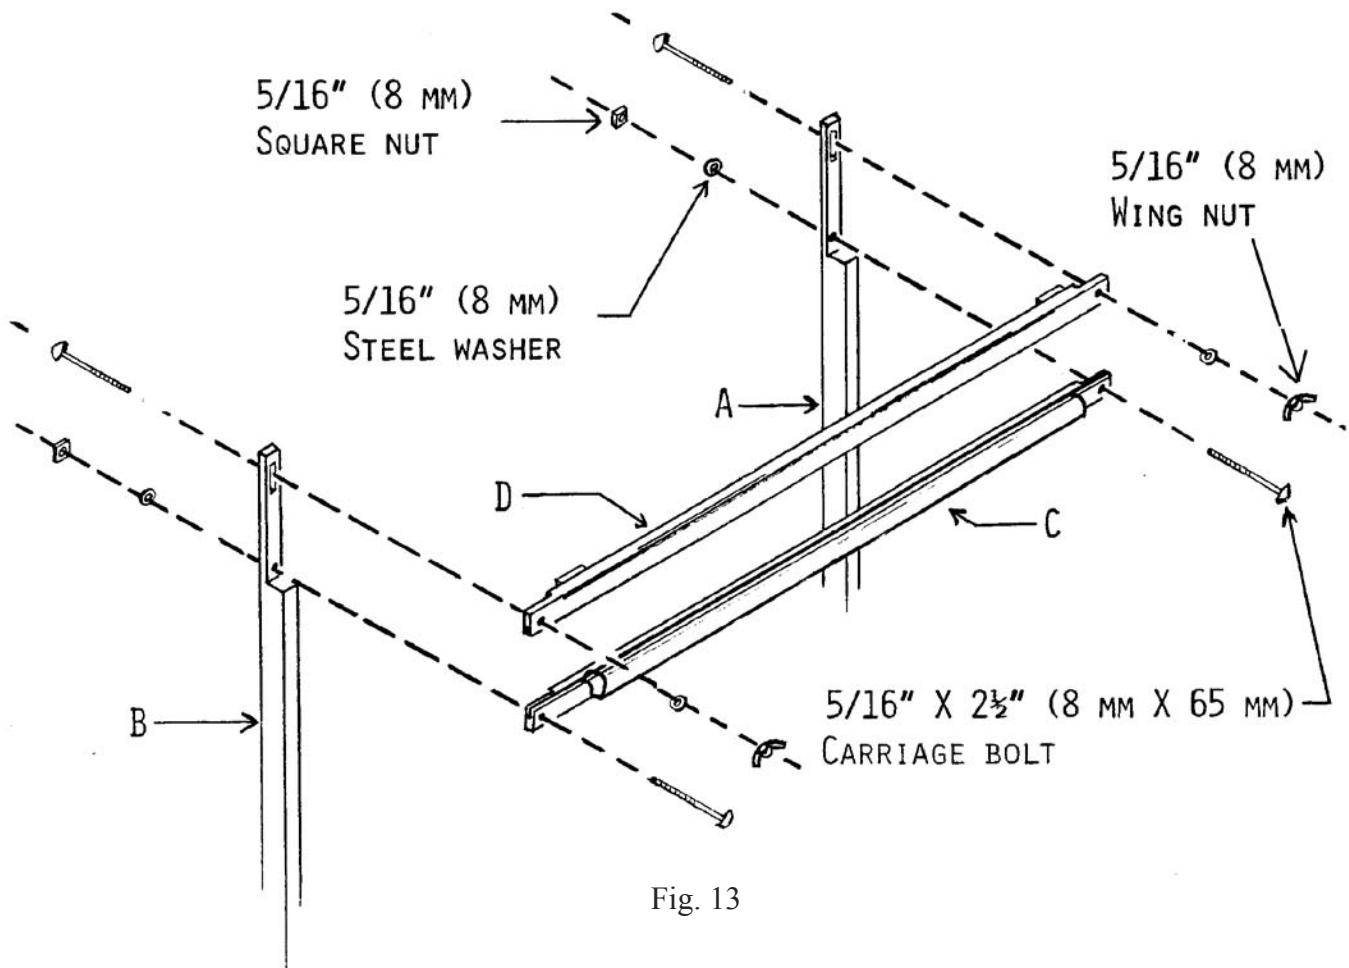

Fig. 13
Using two (2) 5/16" x 2 1/2" (8 mm x 65 mm) carriage bolts, two 5/16" (8 mm) steel washers, and two square nuts, affix batten sley C to the lower holes of swords A and B. (Fig. 13)